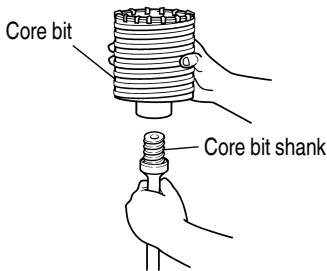

Fig. 24
- (1) Mount the core bit to the core bit shank. (Fig. 24)